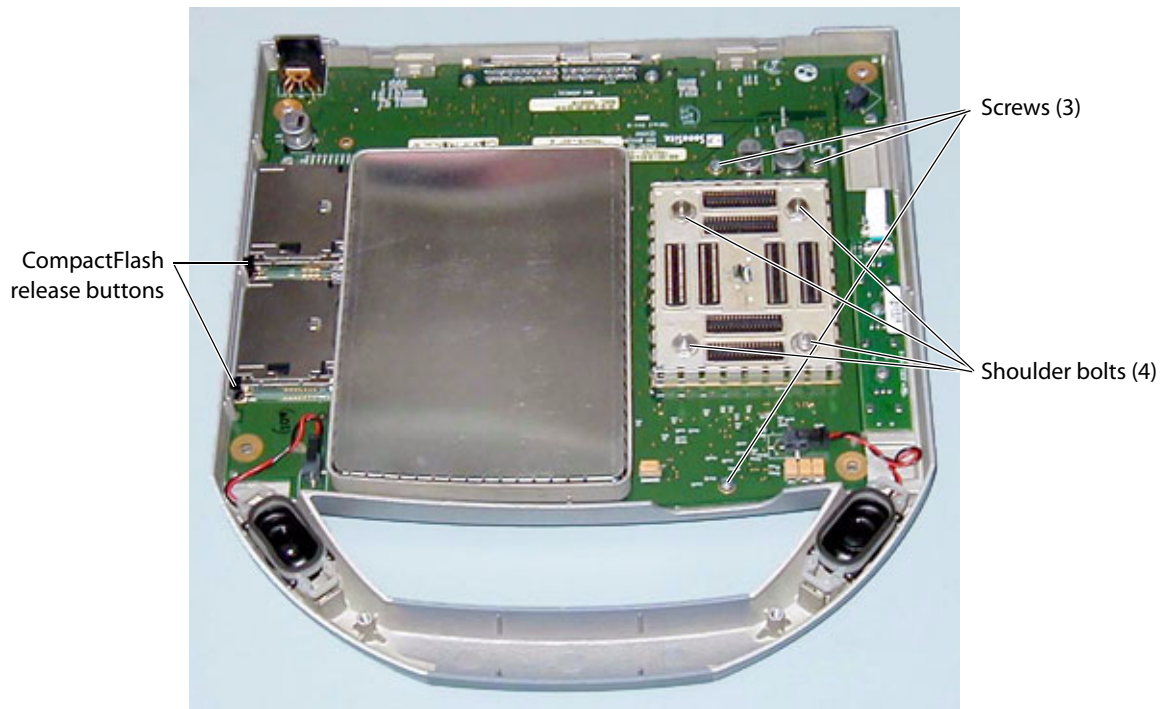

Figure 7.13 Main PCBA Screws
- 1 Remove the 3 screws holding the Main PCBA in place per Figure 7.13.